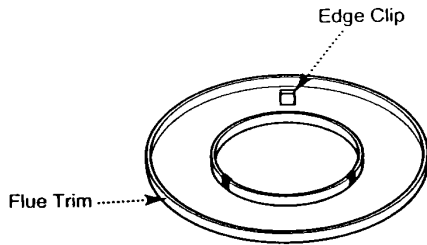

Fig. 51a
b) Take the three edge clips from the kit and fit to equi-spaced onto the inner flange of the trim (Fig. 51a).